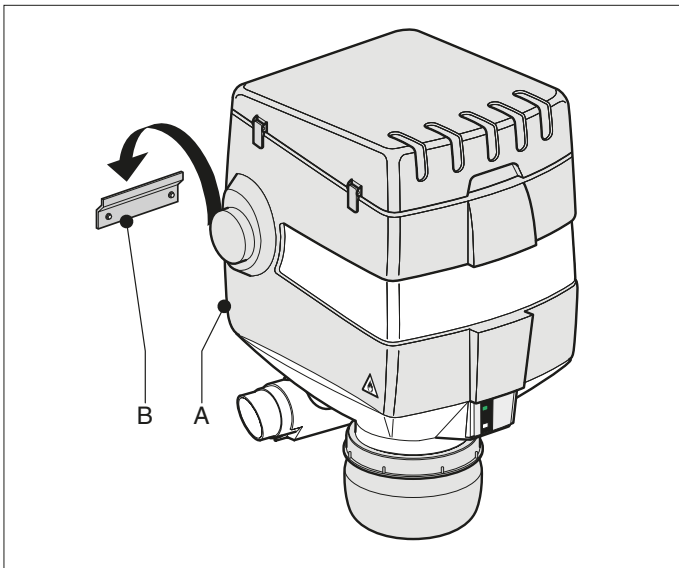

Fig. 4.3
- Position the complete Statiflex 400-MS (Fig. 4.3 A) over the wall bracket (Fig. 4.3 B).